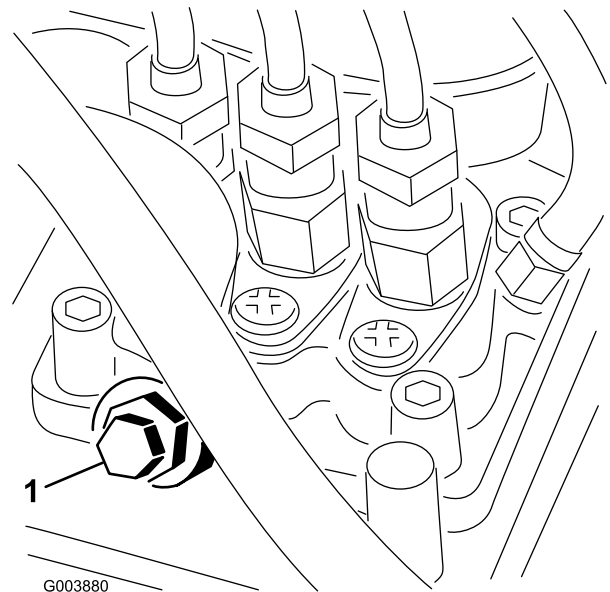

Figure 36
- Open the air-bleed screw on the fuel-injection pump (Figure 36).